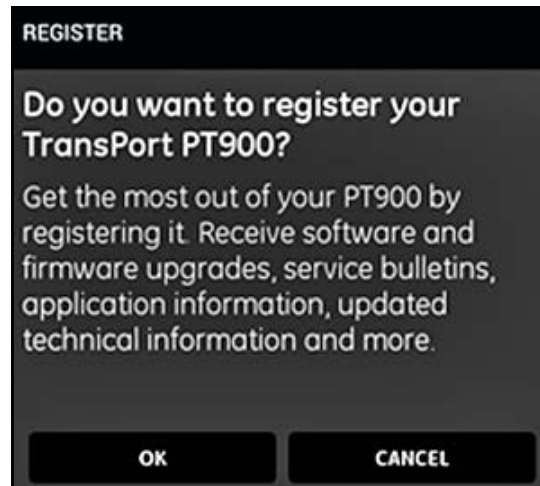

Figure 62: PT900 Registration
5. At the Registration screen (see *Figure 62* below), click OK to register your PT900 or click CANCEL to skip the registration.